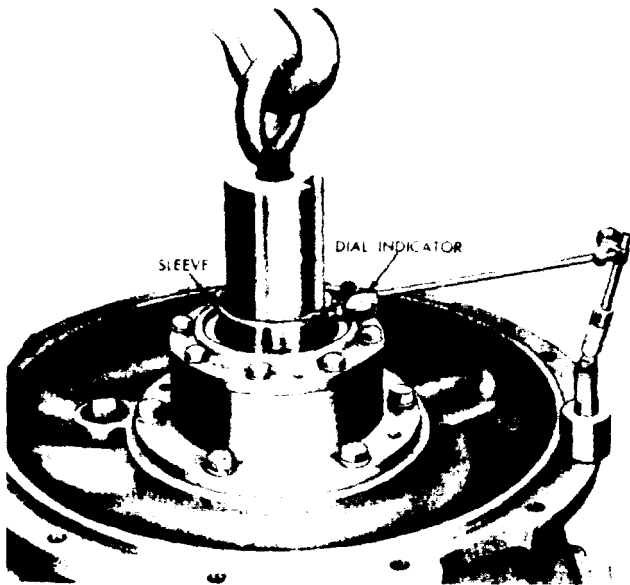

Figure 4C-37. Checking End Play-Weight Suspended
1. Install the seal rings on the converter ground sleeve (see Figure 4C-16 on page 4C-19).
2. Install converter pump hub (17, Figure 4C-39 on page 4C-34), double row ball bearing assembly (08) and seal ring (10) as an assembly onto the converter ground sleeve.